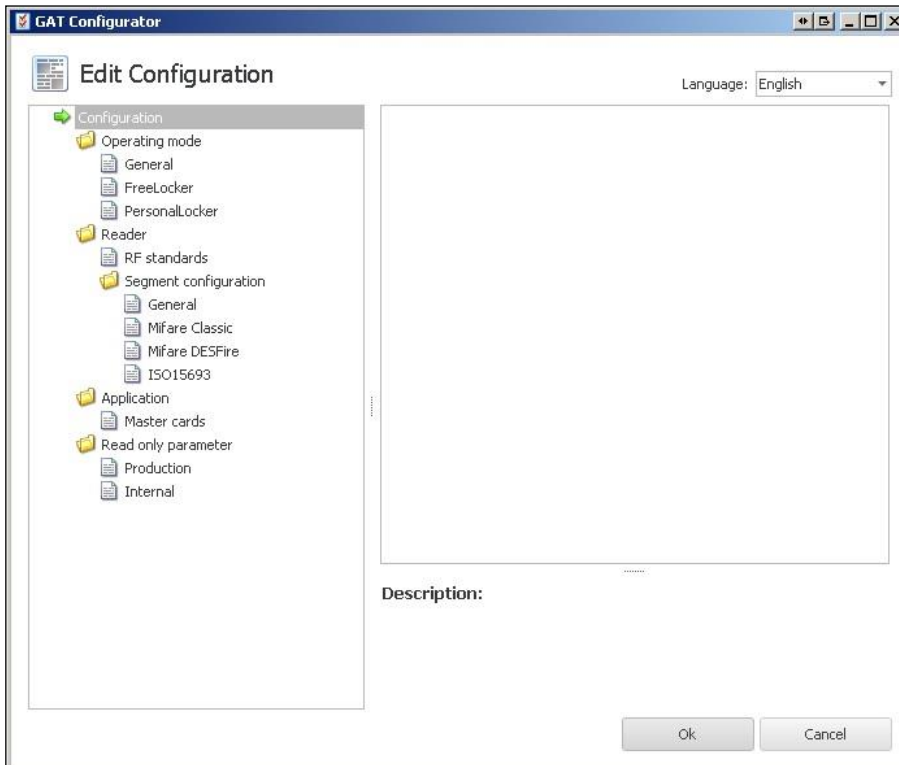

Figure 5.5 – GAT Configurator window
- The GAT Configurator window opens (Figure 5.5).
- ▶ Click on “OK” in the GAT Configurator Window (Figure 5.5).